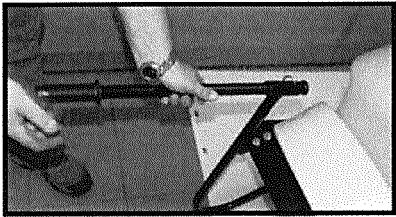

Fig.41: How to install handles.
3. Slip one handle grip over each handle bar and slide them on until they are snug on the handle. (Fig.41).